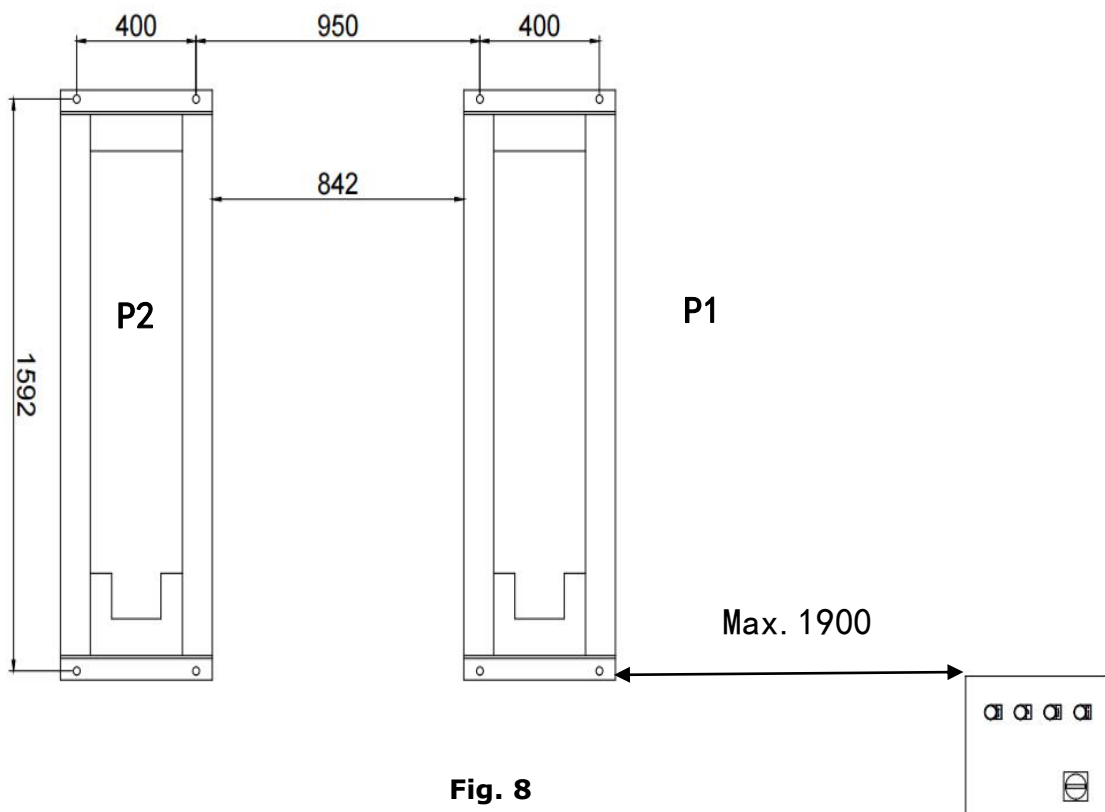

Fig. 8
1.1 Connecting the power supply wires and limit switch wires. (Fig.8)